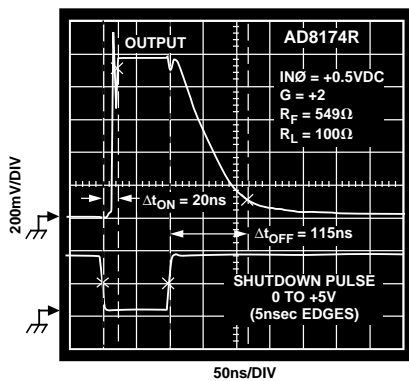

Figure 6. Shutdown Switching Characteristics
³AD8174 only. ENABLE pin is grounded. Shutdown (SD) pin is driven with 0 V to +5 V pulse (5 ns rise and fall times). State of A0 and A1 logic inputs determines which channel is activated (i.e., if A0 = Logic 1 and A1 = Logic 0, then IN1 input is selected). Set IN0 (or IN2) = +0.5 V dc, IN1 (or IN3) = -0.5 V dc, and measure transition time from 50% of SD pulse (+2.5 V) to 90% of the total output voltage change. In Figure 6, Δt_{OFF} is the shutdown assert time, Δt_{ON} is the shutdown release time.